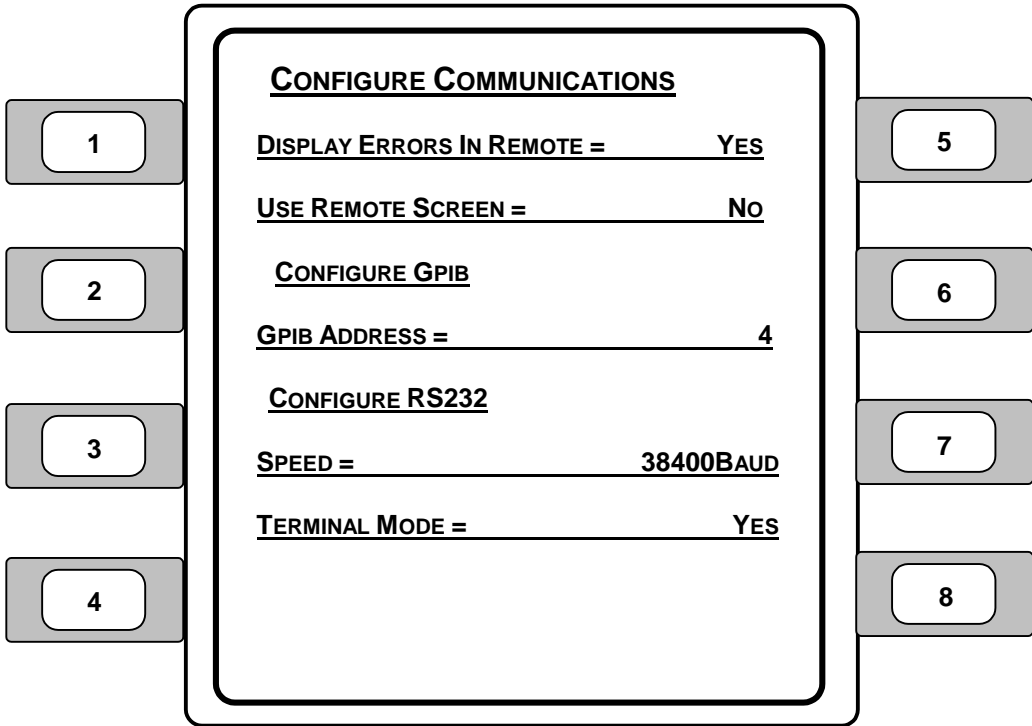

Figure 26 – Configure Communications Screen
3. **COMM** – Pressing the adjacent soft key allows the user to access the GPIB, RS-232, and USB communication parameters. See **Figure 26** for details.